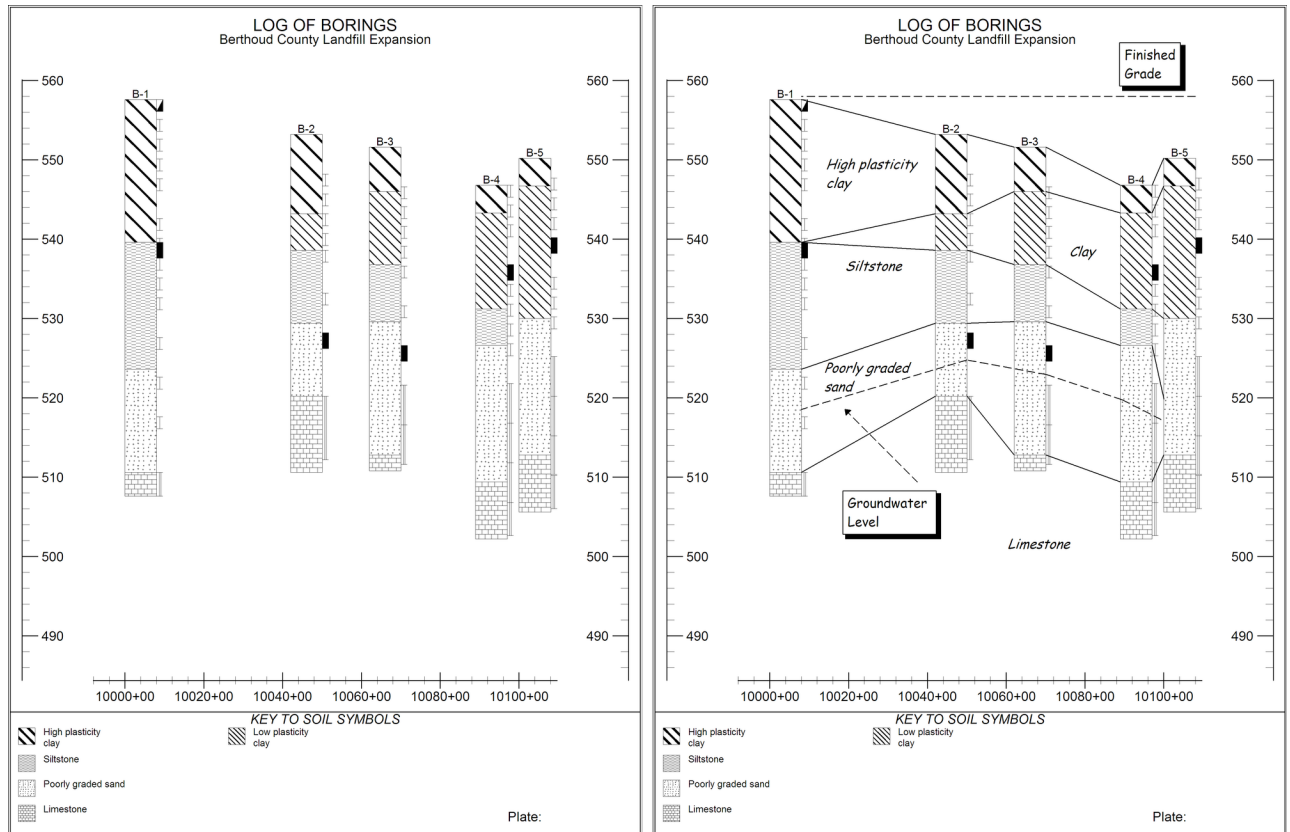

Figure 5.5: Original and Annotated Profiles
Once you've drawn an annotation line you can add an arrowhead to either end of the line (see the line extending from "Proposed Pipeline Extension" in Figure 5.1 and the one extending from "Groundwater level" in Figure 5.5).
The annotated profile shown in Figure 5.5 includes lines separating stratigraphy layers: These *stratigraphy correlation lines* were automatically generated by **LOGDRAFT**.
- ⇒ Checking **Drop-Shadow** adds a shadow around the border (this effect is used for the "Finished Grade" and "Groundwater Level" annotations shown on the profile in Figure 5.5).